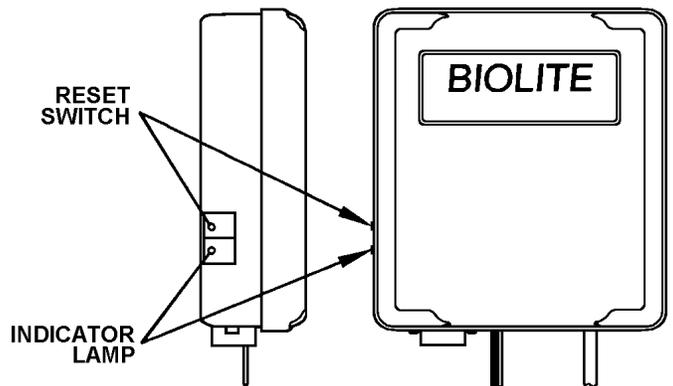

Figure 6. RESET SWITCH & INDICATOR LAMP
21. The audible alarm will sound momentarily, until the lamp illuminates, as can be seen by the glow of the clear acrylic closure. The system has a built-in two (2) minute delay before opening the solenoid valve to allow the lamp to reach the proper bactericidal intensity before water is allowed to flow through the unit.
NOTE: NEVER LOOK DIRECTLY AT AN ILLUMINATED UV LAMP AS DAMAGE TO EYES MAY OCCUR. When power is first applied the indicator lamp will begin to blink Green automatically. (See Figure 6). This indicates that the UV lamp has been in operation less than twelve (12) months. When twelve months of operation have accrued, the Indicator Lamp on the Control Box will illuminate continuously RED and the audible alarm will sound intermittently. It is important to note that the blinking green Indicator Lamp does not indicate that the UV lamp is illuminated, rather that the UV lamp has been in operation less than twelve months. It is critical that the Reset Switch not be pressed unless the used UV lamp has been replaced with a new lamp. (See OPERATIONAL NOTES for further explanation).
The BIOLITE System is also equipped with an Elapsed Time of Operation Monitor, which provides its owner with both visual and audible notification that the UV lamp should be changed. Over time the intensity of the UV lamp will begin to fade, therefore, the lamp should be replaced every twelve (12) months, even if the lamp is still illuminated. During normal operation the Indicator Lamp will blink GREEN (See Figure 6). This indicates the installed UV lamp has been in operation less than twelve months. It is important to note that the blinking green Indicator Lamp does not indicate that the UV lamp is illuminated, but that the UV lamp has been in operation less than twelve months. It is critical that the Reset Switch not be pressed unless the used UV lamp has been replaced with a new lamp. When twelve months have elapsed the Indicator Lamp will switch to continuous RED illumination and the audible alarm will sound intermittently. When this occurs, the UV lamp has been in operation twelve months and should be replaced.